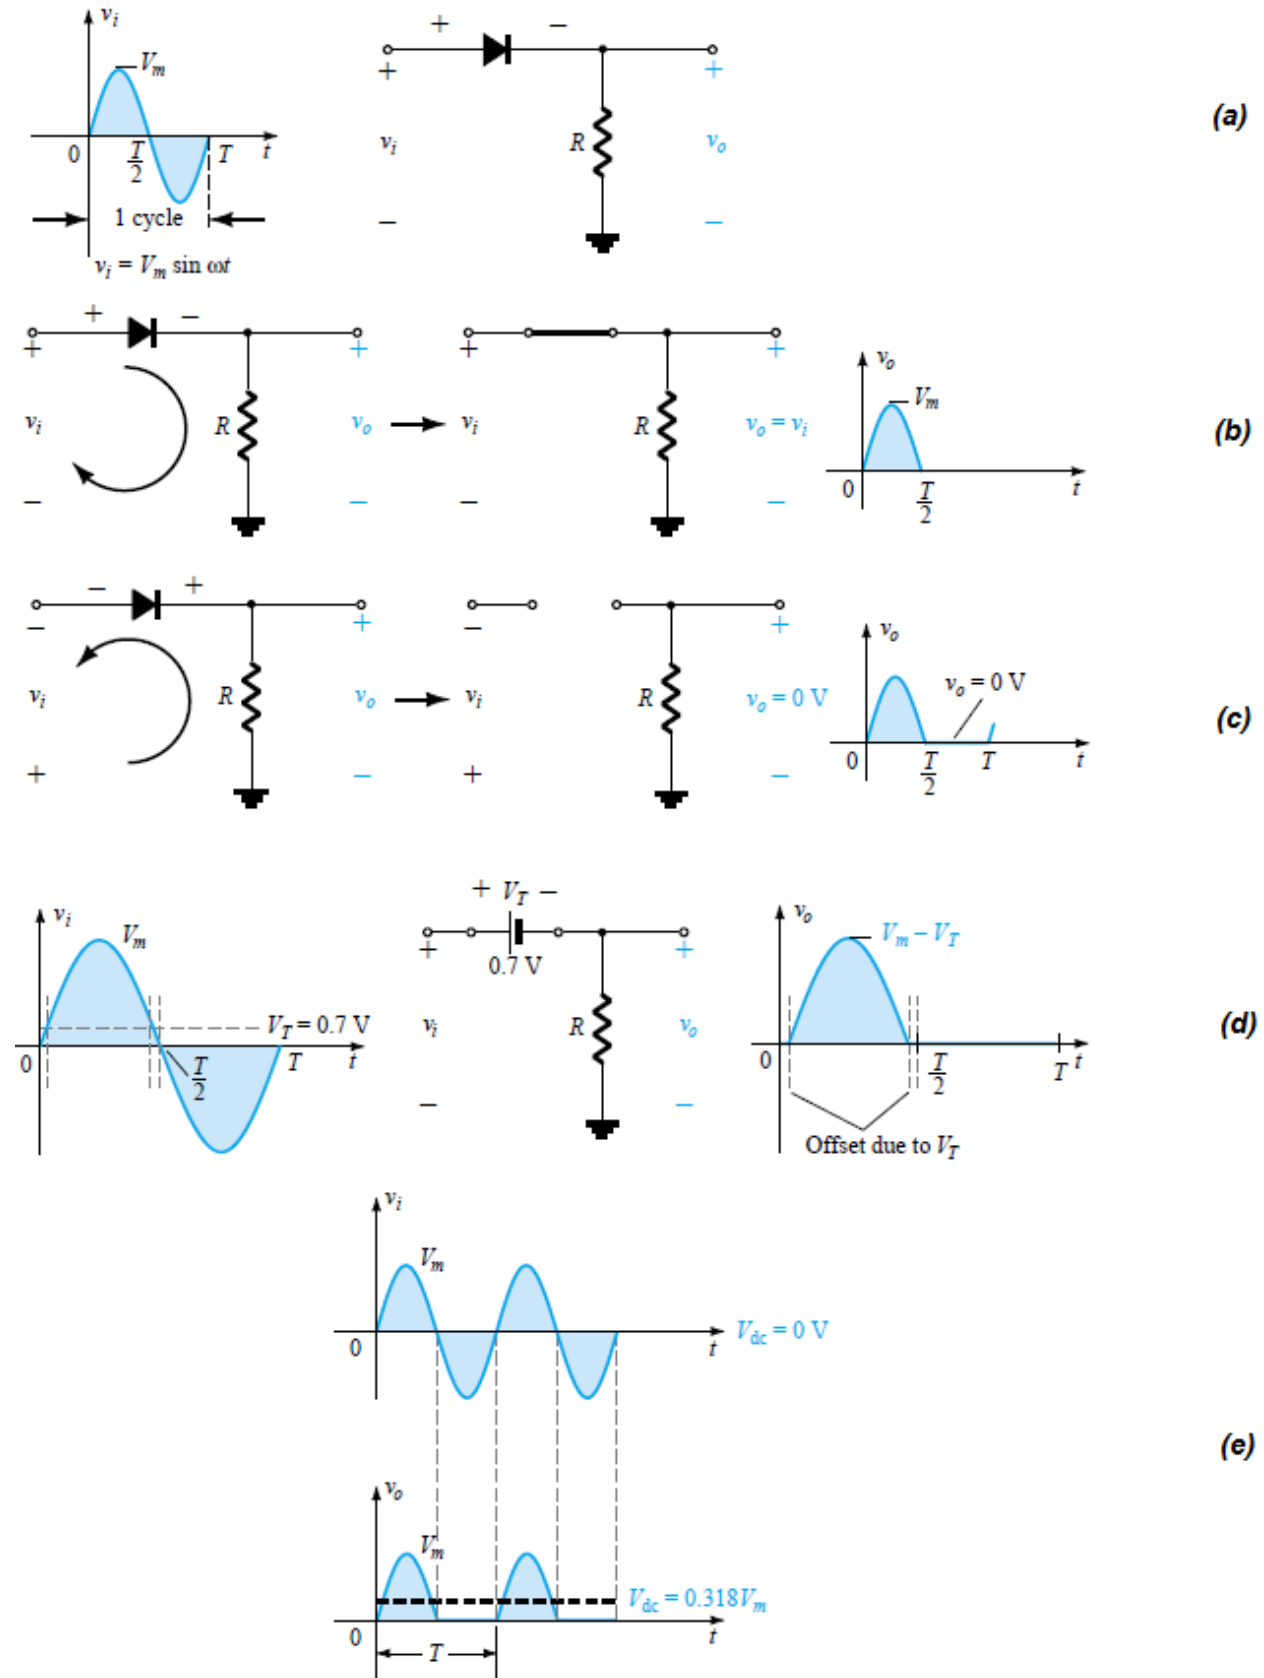

Fig. 6.7: HWR circuit.
Here we put time analysis in our vision as shown in Fig. 6.7 (a). The input sinusoidal wave enter to diode to half of it pass and diode prevent another half. To know how we do that, we will analyze the circuit:
output signal is shown in Fig. 6.7 (b).
output signal is shown in Fig. 6.7 (c).
4. The effect of barrier potential on HWR is shown in Fig. 6.7 (d).
5. The average voltage equal to  $V_{DC} = V_{avg} = \frac{V_m}{\pi}$  as shown in Fig. 6.7 (e).